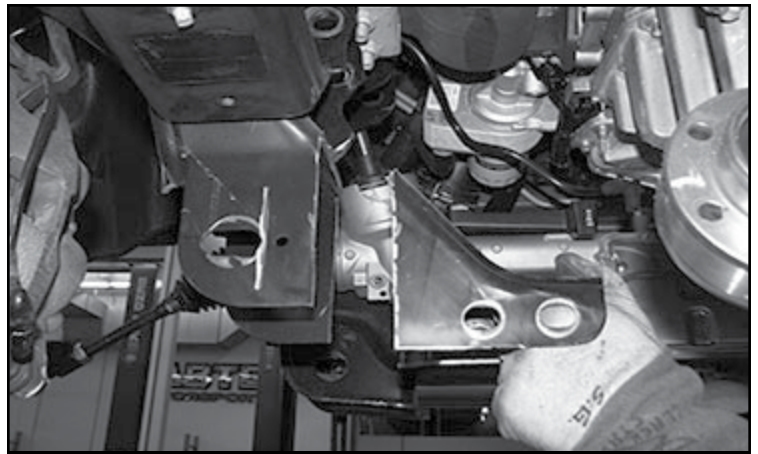

**FIGURE 12 - STEP 14**
14. Supporting the differential, remove the 3 differential mount bolts and save for re-installation. Remove the differential from the vehicle. **SEE FIGURE 12**